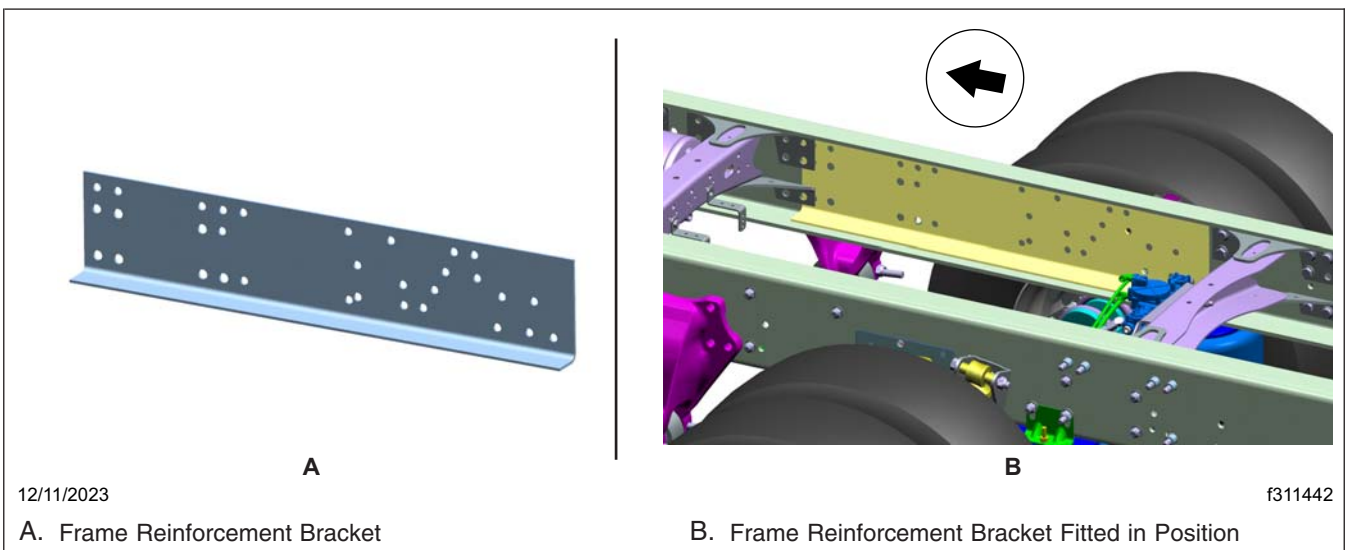

Fig. 9, Installation of the Frame Reinforcement Bracket
14. Drill suitable holes in the frame reinforcement bracket, as shown in **Fig. 9**.
15. Slide the frame reinforcement bracket inside the frame rail lining and align with the pre-drilled holes, as shown in **Fig. 9**.